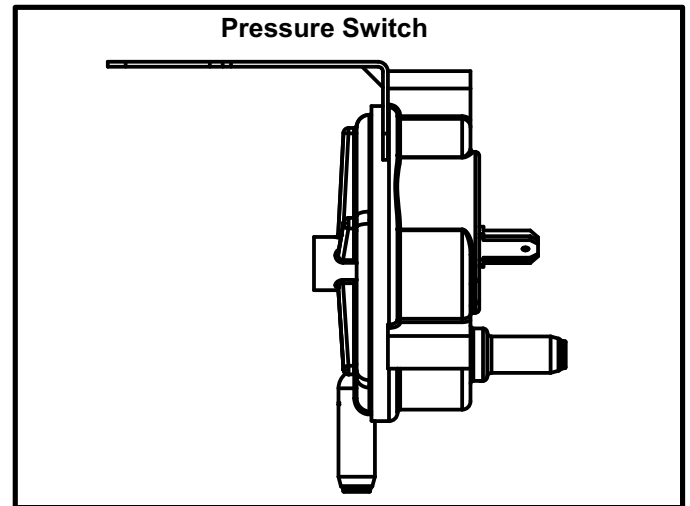

FIGURE 11
8. Combustion Air Pressure Switch (Figure 11)